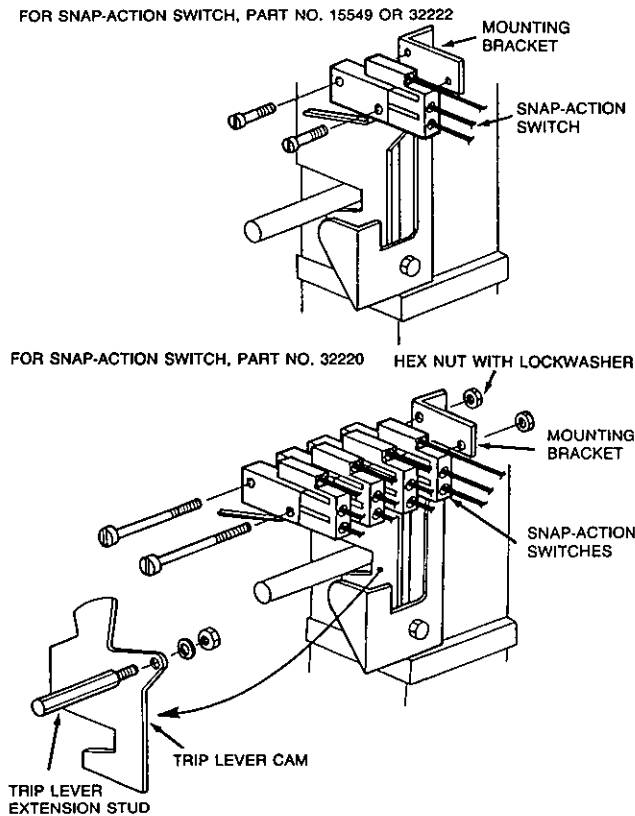

FIGURE 72
4. Insert fastening screws into switch. If switch (Part No. 32220, Four-Pole, Double-Throw or Part No. 415868, 3 pole, Double-Throw) is being used, skip Step 4 and proceed to Step 5. See Figure 72.
5. To install the three-pole, double-throw switch, Part No. 415868, or the four-pole, double-throw switch, Part No. 32220, it will be necessary to enlarge the bracket mounting holes on the regulated release mechanism. The mounting holes are intended for self-tapping screws. Either drill the holes using No. 33 (1/8 in.) drill bit or tap out holes with a No. 4-40 tap. See Figure 72.